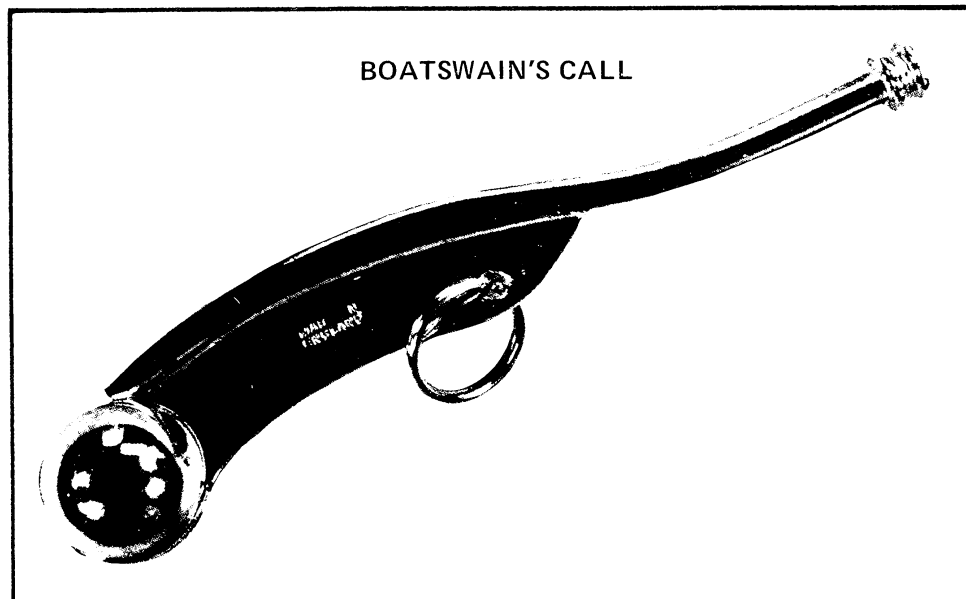

Figure 9-1 Boatswain’s Call
4. **The Boatswain’s Call** — The boatswain’s call, see Figure 9-1, dates back to the days when Greece and Rome used galley slaves. In the early days of the Royal Navy it was a badge of rank as well as a means of passing an order. The Lord High Admiral wore a golden **whistle of honour** from a chain around his neck, and he also carried a **whistle of command** which he used for passing orders and for saluting certain people.